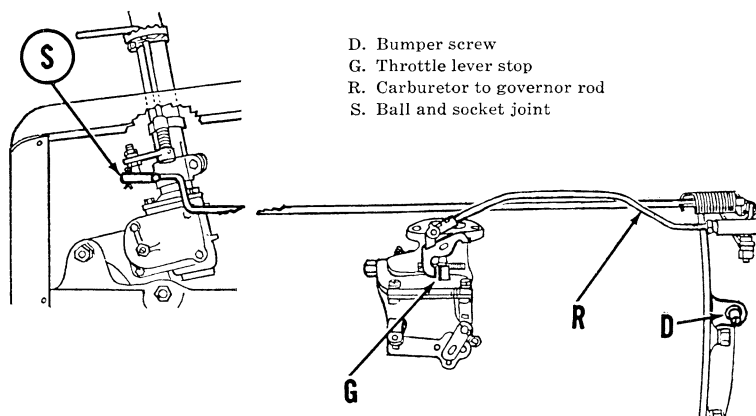

Fig. MH12—Pony governor linkage assembly.
32. **SPEED ADJUSTMENT.** To adjust maximum no-load governed speed, remove right side panel which exposes lower portion of throttle quadrant assembly as shown in Fig. MH12. Change the governor spring tension by turning ball and socket joint (S) on governor rod until desired speed is obtained. If engine surges at no-load speed, turn in on bumper screw (D) until surge is eliminated (this will cause slight increase in no-load speed). Correct governed speeds follow: